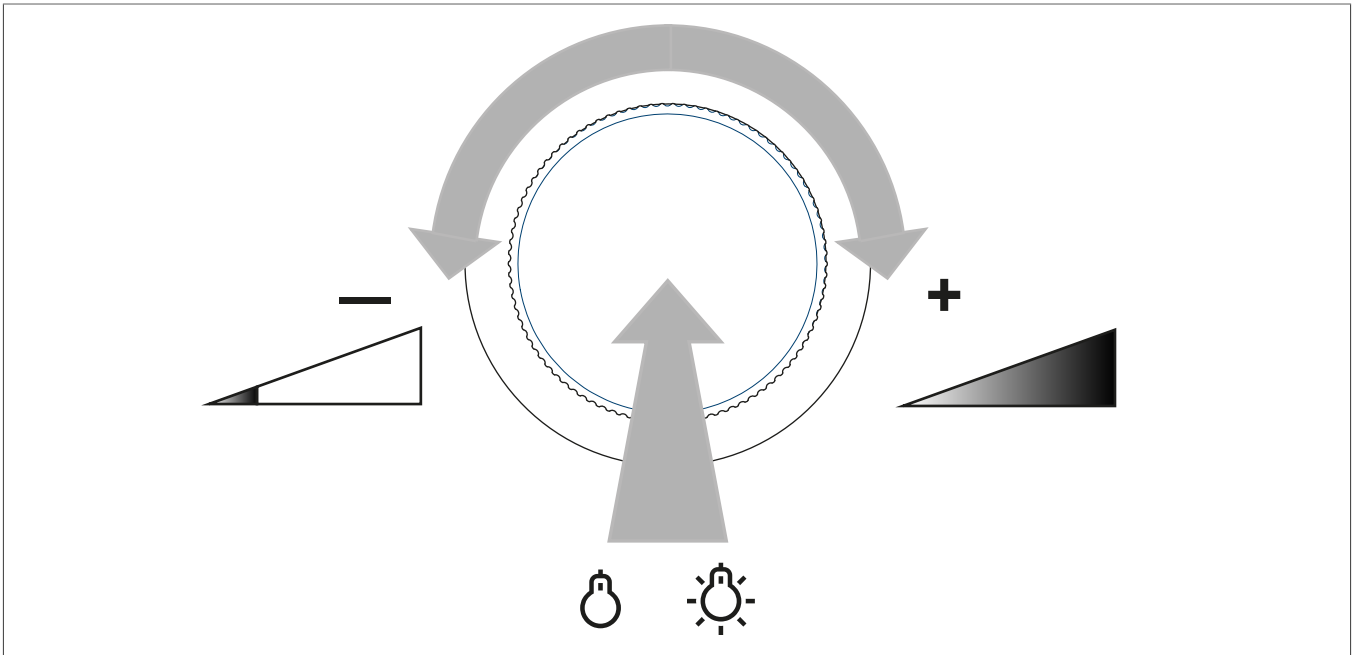

Fig. 1: Switch on the light or adjust the brightness
- Briefly press the adjustment knob: Light switches on or off (Figure 1).
- Quickly turn the adjustment knob: Brightness is changed rapidly (Figure 1).
- Slowly turn the adjustment knob: Brightness is changed slowly (Figure 1).